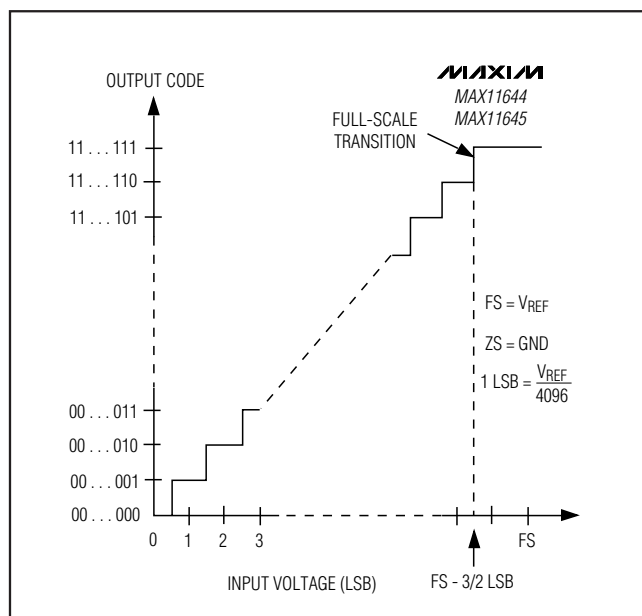

Figure 12. Unipolar Transfer Function
Output data coding for the MAX11644/MAX11645 is binary in unipolar mode and two's complement in bipolar mode with 1 LSB = (VREF/2N) where N is the number of bits (12). Code transitions occur halfway between successive-integer LSB values. Figures 12 and 13 show the input/output (I/O) transfer functions for unipolar and bipolar operations, respectively.